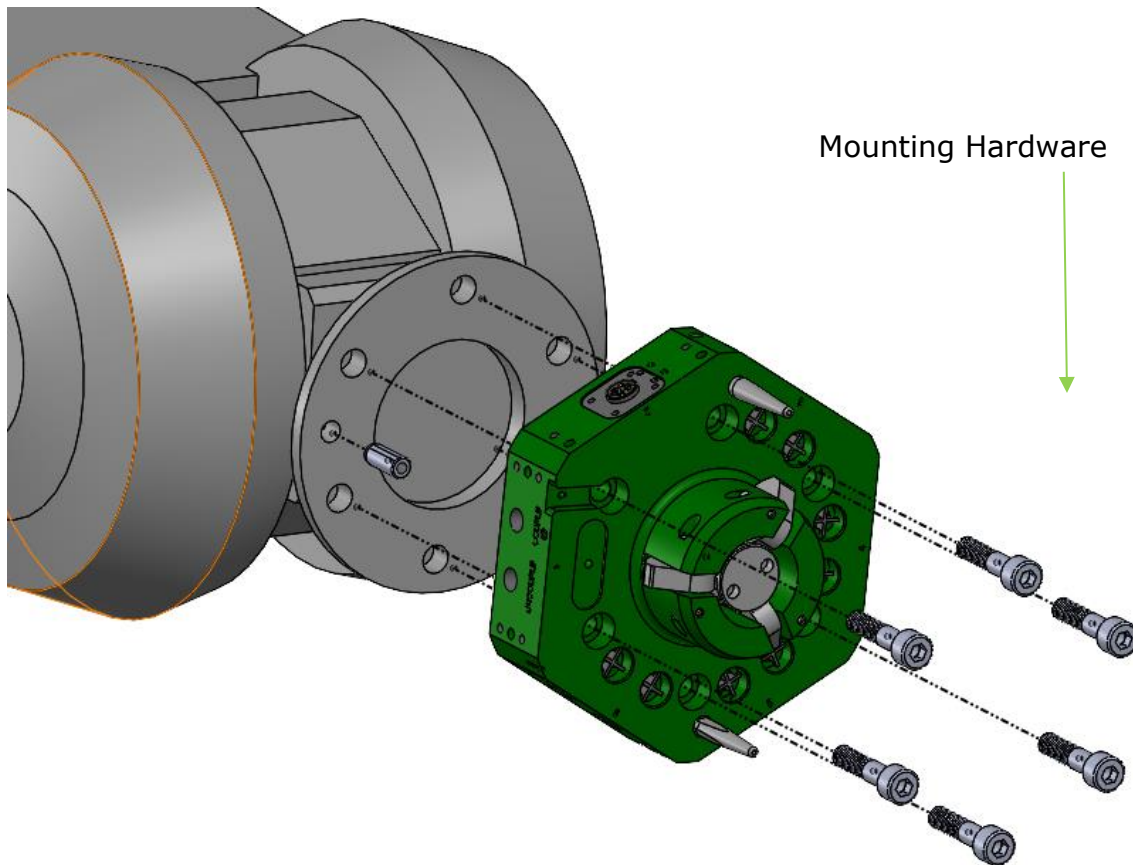

Figure 5.1.1-1. E100 Robot Side Installation w/ M8 Hardware
1. Locate the Robot Side to the manipulator mounting flange utilizing the locating boss and one (1) M8 locating dowel (Figure 5.1.1-1).
Couple and uncouple signals are provided via an electrical interface at Position 2 of the E100 Robot Side (Figure 5.1.1-1 or Figure 5.1.1-2).